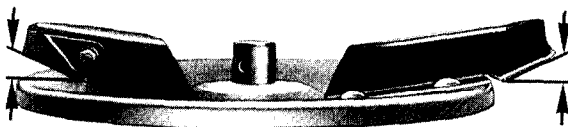

Fig. 6
Swivel-blades placed up into pos. "B" (Fig. 6). The height of the spinner discs must be brought level to the height of the tips of the corn/ears (pos. 0). Should the lifting height of the tractor's hydraulic be insufficient (corn higher than 0.9 - 1.0 m), a corn-lowerer (extra option, Order No. 119 500) must be mounted behind the broadcaster.